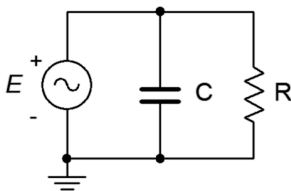

Figure 7.6
6. For the circuit shown in Figure 7.6, determine apparent power S , real power P , reactive power Q and power factor PF . Also, draw the power triangle. The source is 240 volts, $X_C = -j200 \Omega$, $R = 75 \Omega$.